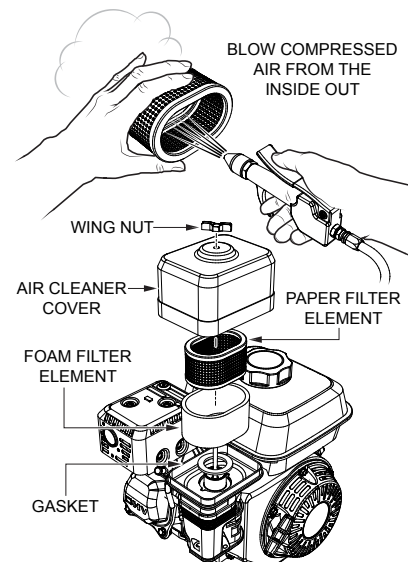

Figure 30. Engine Air Cleaner
1. Remove the air cleaner cover and foam filter element as shown in Figure 30.
2. Tap the paper filter element (Figure 30) several times on a hard surface to remove dirt, or blow compressed air not exceeding 30 psi (207 kPa, 2.1 kgf/cm²) through the filter element from the air cleaner case side. **NEVER** brush off dirt. Brushing will force dirt into the fibers. Replace the paper filter element if it is excessively dirty.